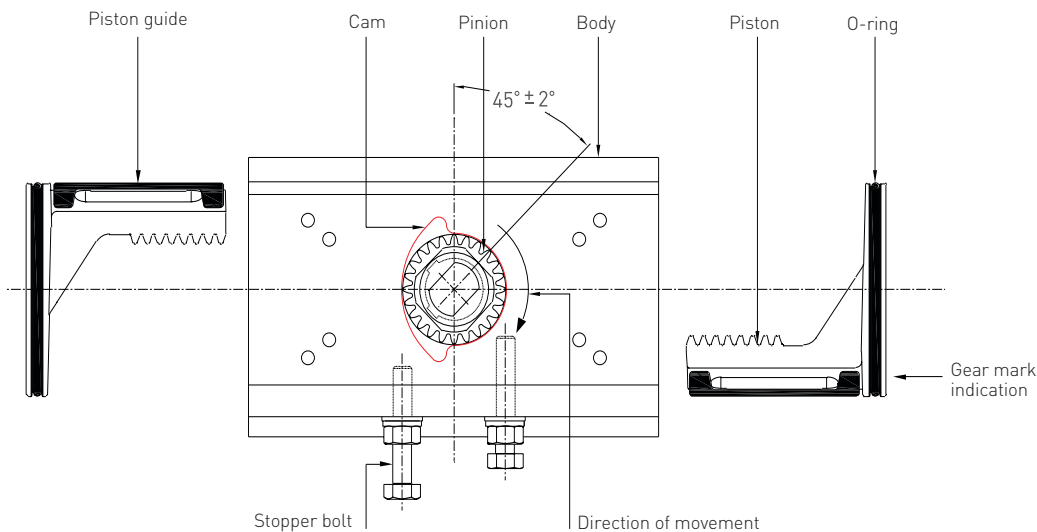

FIGURE 4 (top view)
- a. Fit the top bearing assembly (10) on the top of the pinion shaft (2) with the top O-ring (16) uppermost.
- b. Fit the bottom bearing assembly (11) on to the bottom of the pinion shaft with the bottom O-ring (17) at the bottom.
- c. Fit the top thrust washer (12).
6. While inserting, fit the travel stop cam (5) on top of the pinion shaft from within the actuator bore and monitor the position of the key in the shaft and the travel stop cam as shown in figure 4. Finish with a firm push to ensure full location.
7. Fit bottom thrust washer (13) and internal circlip (25) to bottom recess of body to locate the shaft assembly.
8. Fit the O-ring seals (18) on the pistons (3), and grease the rack.
9. Orientate the output shaft at 45° as in figure 4.
10. Insert pistons completely with backing pads (9) with piston legs on left hand side of the bore when viewed from the O-ring end of the piston (figure 4), until racks engages with the pinion and then push gently inward. The actuator is now in the fully closed position, and the shaft indication should be at -5 degrees (pointing slightly to the right).
12. Insert the right (close) travel stop bolt (21) together with the O-ring (19), washer (14) and lock nut (23) until the bolt hits the travel stop cam. Tighten the lock nut.
14. Insert the left (open) travel stop bolt (21) together with the O-ring (19), washer (14) and lock nut (23) until the bolt hits the travel stop cam. Tighten the lock nut. The position of the travel stop bolts need to be verified after valve assembly and adjusted if required.
15. Fit end cap gaskets (20) to the end caps (4) using a light smear of grease.